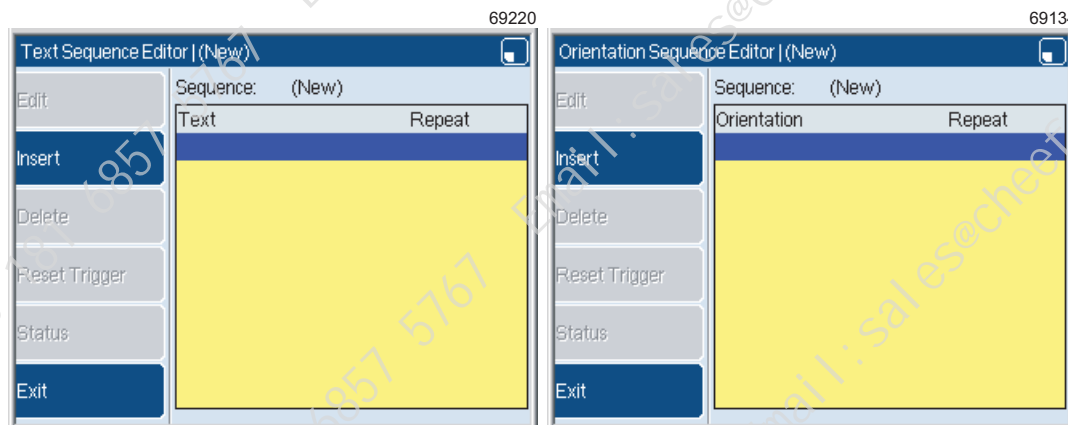

Figure 5. Editor pages
- Press the **Exit** key to display the sequence. This page is like Figure 5 on page 6 but now the sequence contains one item.